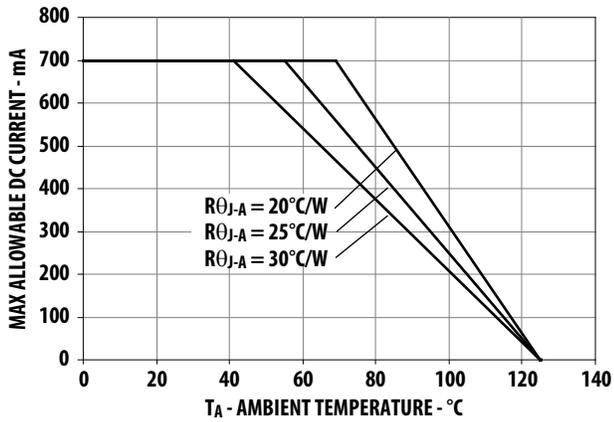

Figure 9. Maximum Forward Current vs. Ambient Temperature. Derated based on TJMAX = 125°C, RθJ-A = 20°C/W, 25°C/W and 30°C/W.
1. Derate linearly based on Figure 9.